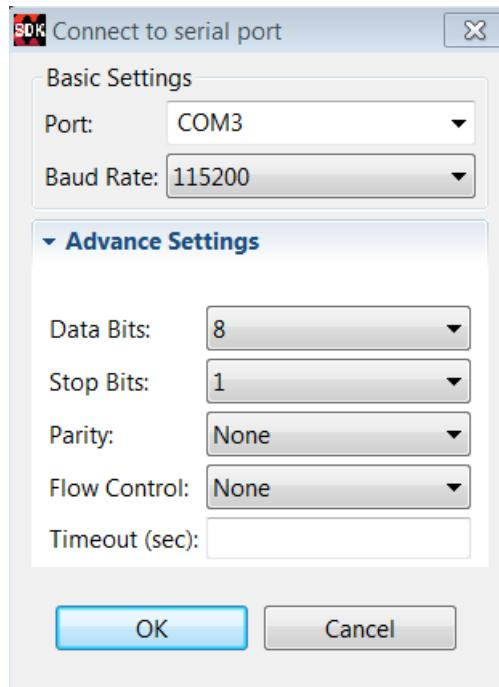

Figure 10-24: Terminal Settings
- Change the Baud Rate to 115200 (Figure 10-24).